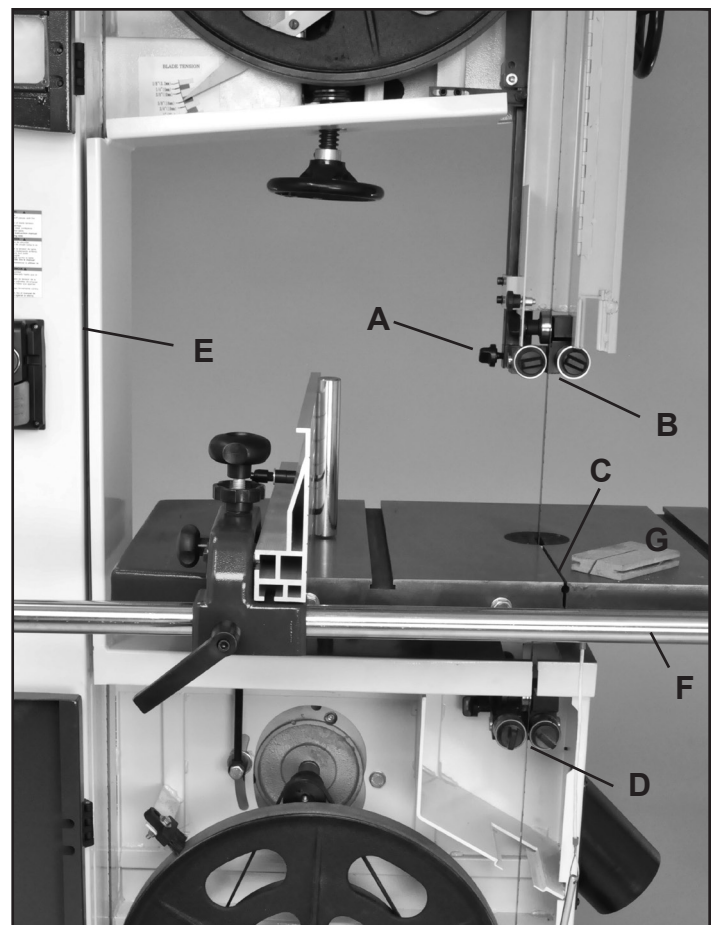

FIGURE 21
2. Open the top and bottom wheel doors, and remove the table support pin from the table front edge, and Dust Board (#33A, Fig. 21, G) by the lower dust port.
3. Open the Hinged Door (#11C) on the blade guard by loosening the Locking Handle (#14C). Fig. 21, A.
4. Remove the saw blade from the top wheel then feed it through the upper blade guides (B), slot in the table (C), lower blade guides (D), out of the slot in the column of the machine (E), off of the bottom wheel, and then around the front rail (F).